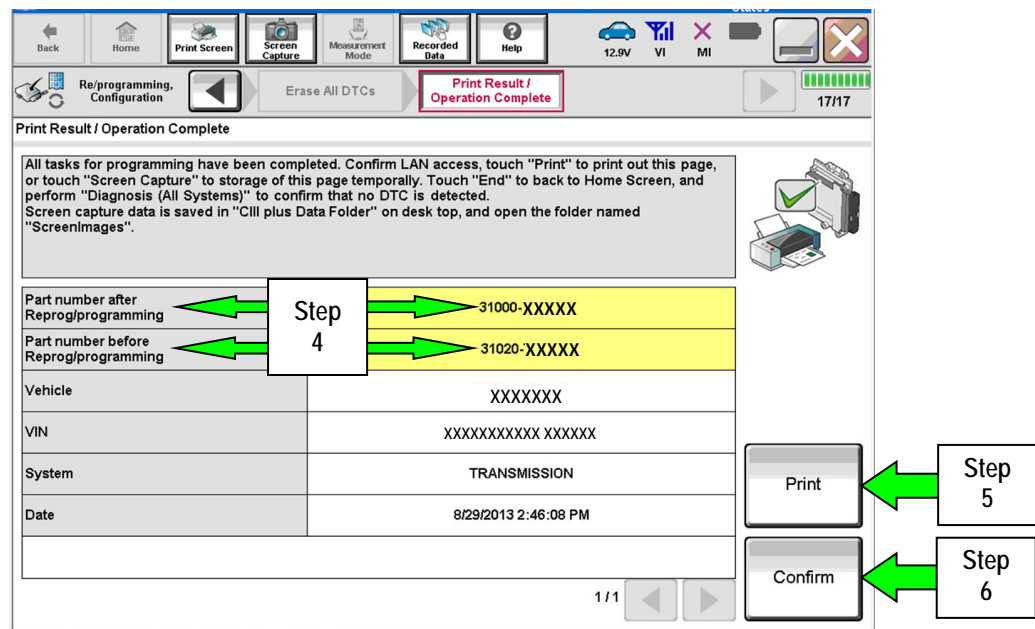

Figure 22a
- When done, a screen similar to Figure 22a will appear.
5. Select **Print** to print a copy of this screen (Figure 22a) and attach it to the repair order.